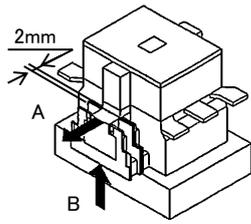

Fig.5
•把辅助触头单元按箭头 A 的方向拉出，空出 2mm 左右的间隙，再按箭头 B 的方向取下。(Fig. 5)
- While making about 2mm space between the auxiliary contact unit and the contactor by pulling the auxiliary contact unit in the direction of the A, remove the auxiliary contact unit in the direction of the B. (Fig. 5)